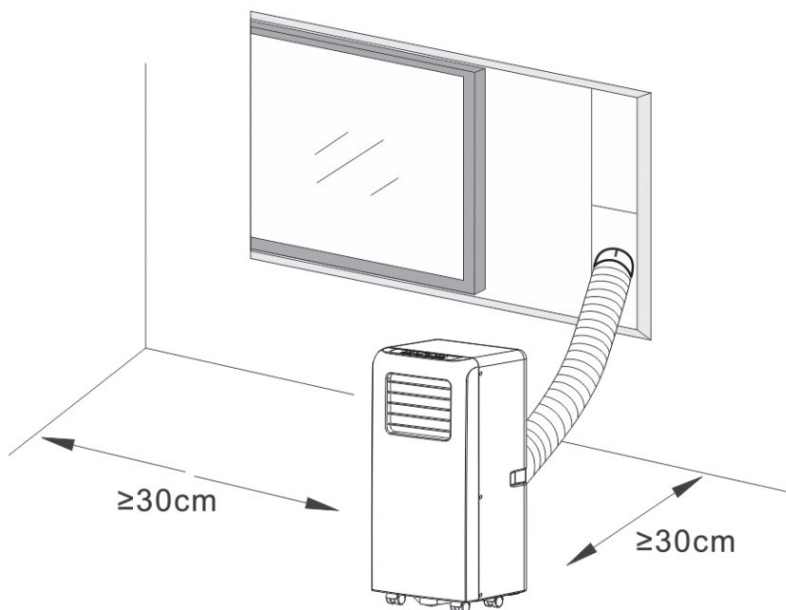

Fig. 3
- A removal air-conditioner shall be installed in the flat and empty place all around. Don't block the air outlet, and the required distance around should be at least 30cm. (See Fig.3)